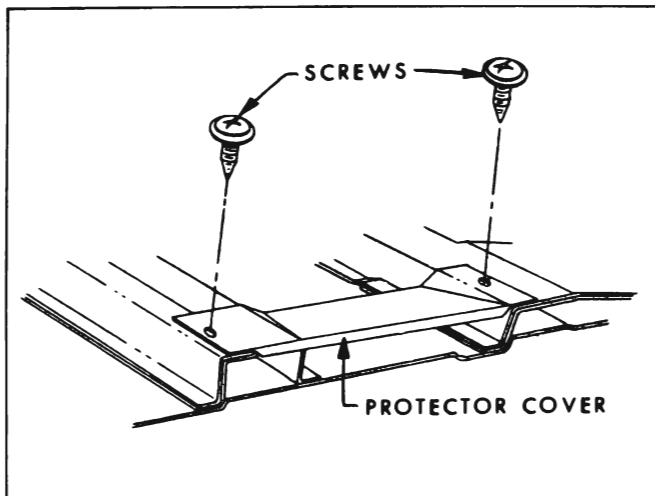

Figure 13-60 — Front Seat Side Protector Cover
2. Remove screws shown in Figure 13-60 securing cover to floor pan and remove cover.